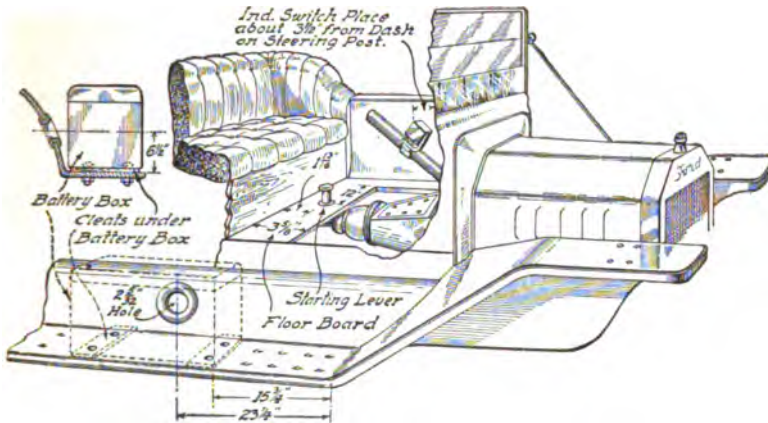
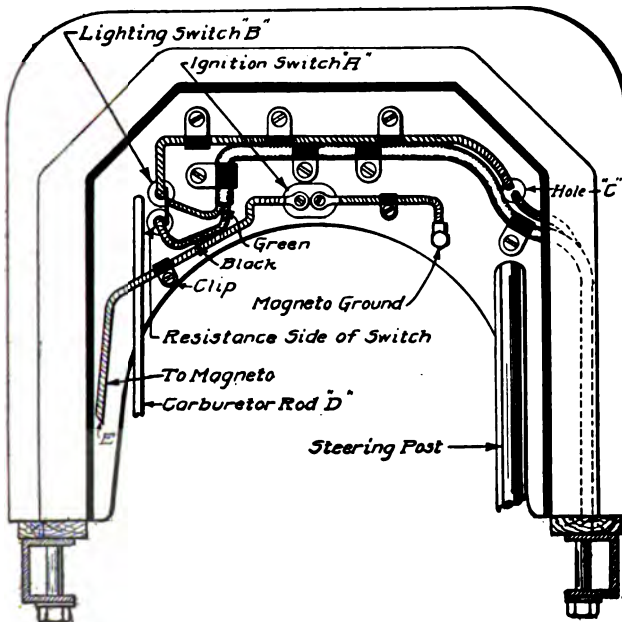
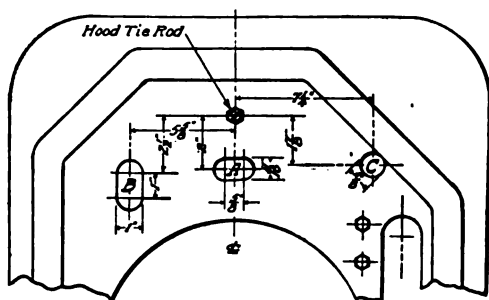
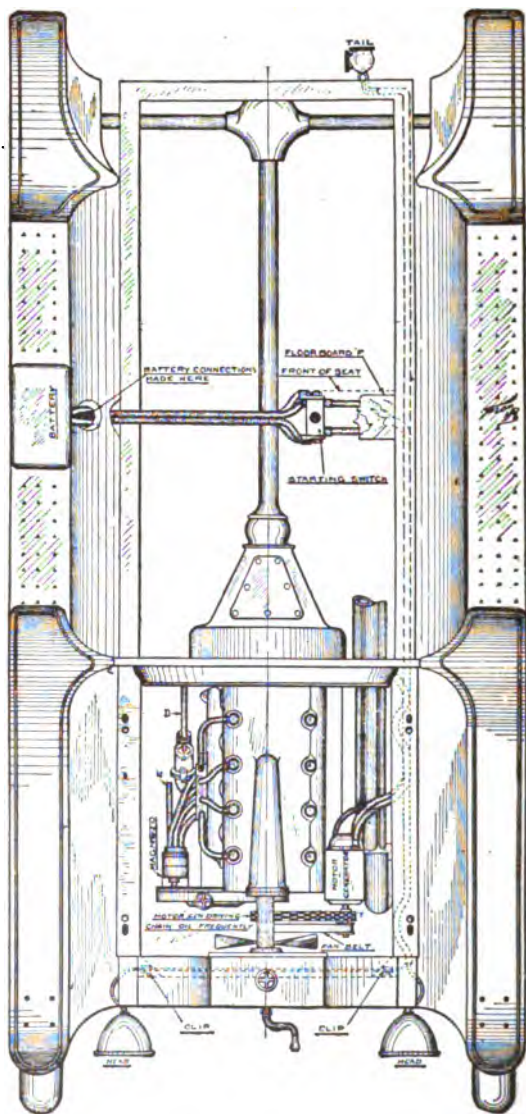

Fig. 414. Details of Wiring for Splitdorf Ford Installation
Fig. 415. Details of Wiring on Dash
Fig. 416. Layout of Drilling on Dash for Ford Installation
Fig. 419. Plan of Ford Chassis, Showing Installation of Splitdorf Starting Switch
**Wiring.** The details of the various holes to be drilled or cut and the wiring to be installed are given in Figs. 414 to 419. Prepare the dash for the wiring, as shown in Figs. 415 and 416, which give the location and sizes of all holes—*A*, Fig. 416, for the ignition switch, *B* for the lighting and dimming switch, and *C* for the wires leading to the indicating automatic switch (battery cut-out with indicator to show whether the battery is charging or not). Unless a magneto is used for ignition, *A* may be omitted.
Bore a  $\frac{3}{8}$ -inch hole in the permanent floor board, as shown in Fig. 414, following the dimensions there given for its location. Install
the starting switch with the front of the switch lengthwise with and facing the right-hand side of the car, Fig. 419, and at the same time
correspond with similar marks on all parts of the installation. Lay wiring assembly in the sill of the car, as shown in Fig. 419, connecting the wires to the front of the dash, as in Fig. 415. (Reference to Fig.
terminals on the generator-motor and likewise to the starting switch. Prepare the curved running-board guard, or apron, for the battery leads and the running board for securing the battery box in accordance with the instructions given on Fig. 414. Place the battery box